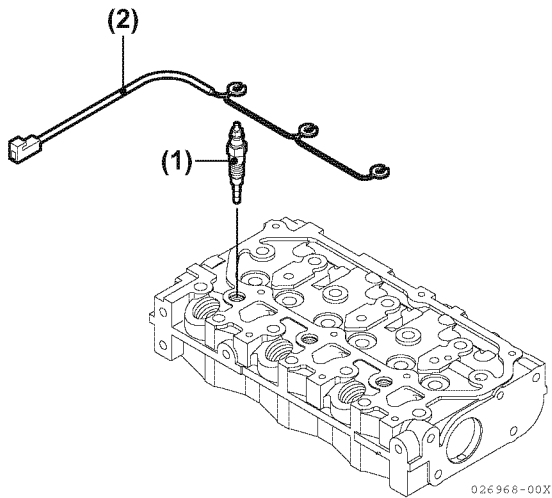

Figure 6-33
1. Reinstall the glow plugs (**Figure 6-33, (1)**) and tighten to specification. Reinstall the electrical harness (**Figure 6-33, (2)**).